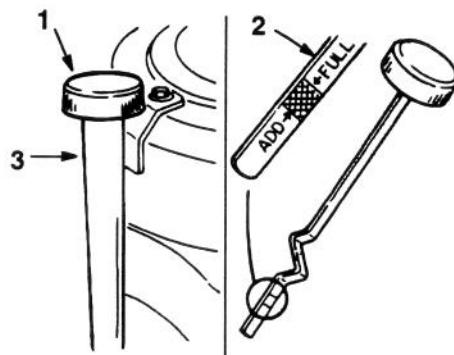

Figure 32
- Clean around the oil dipstick (Fig. 32) so dirt cannot fall into the filler hole and damage the engine.
- Unscrew the oil dipstick and wipe the metal end clean (Fig. 32).
- Screw the oil dipstick fully onto the filler tube (Fig. 32). Unscrew the dipstick again and look at the metal end. If oil level is low, slowly pour only enough oil into the filler tube to raise the level to the "FULL" mark.
- Slowly pour approximately 80% of the specified amount of oil into the filler tube (Fig. 32). Now check the oil level; refer to Checking Oil Level, page 30, steps 4-5.